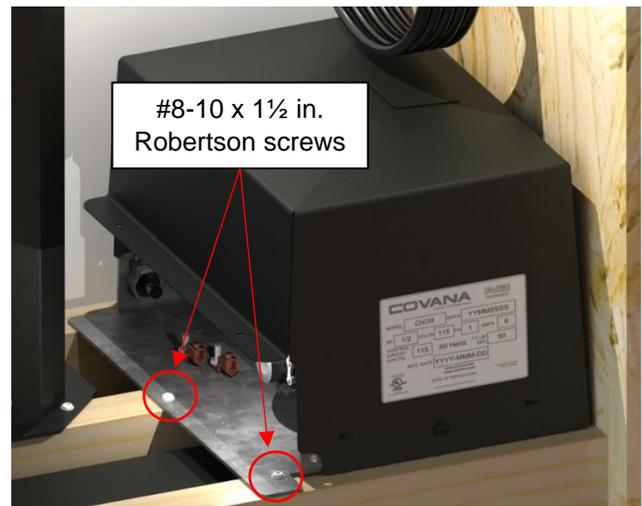

Figure 34
8) Unscrew the two #8-10 x 1½ in. Robertson screws on the operator base plate, remove the operator from the crate and place it in a safe place. (Figure 34)